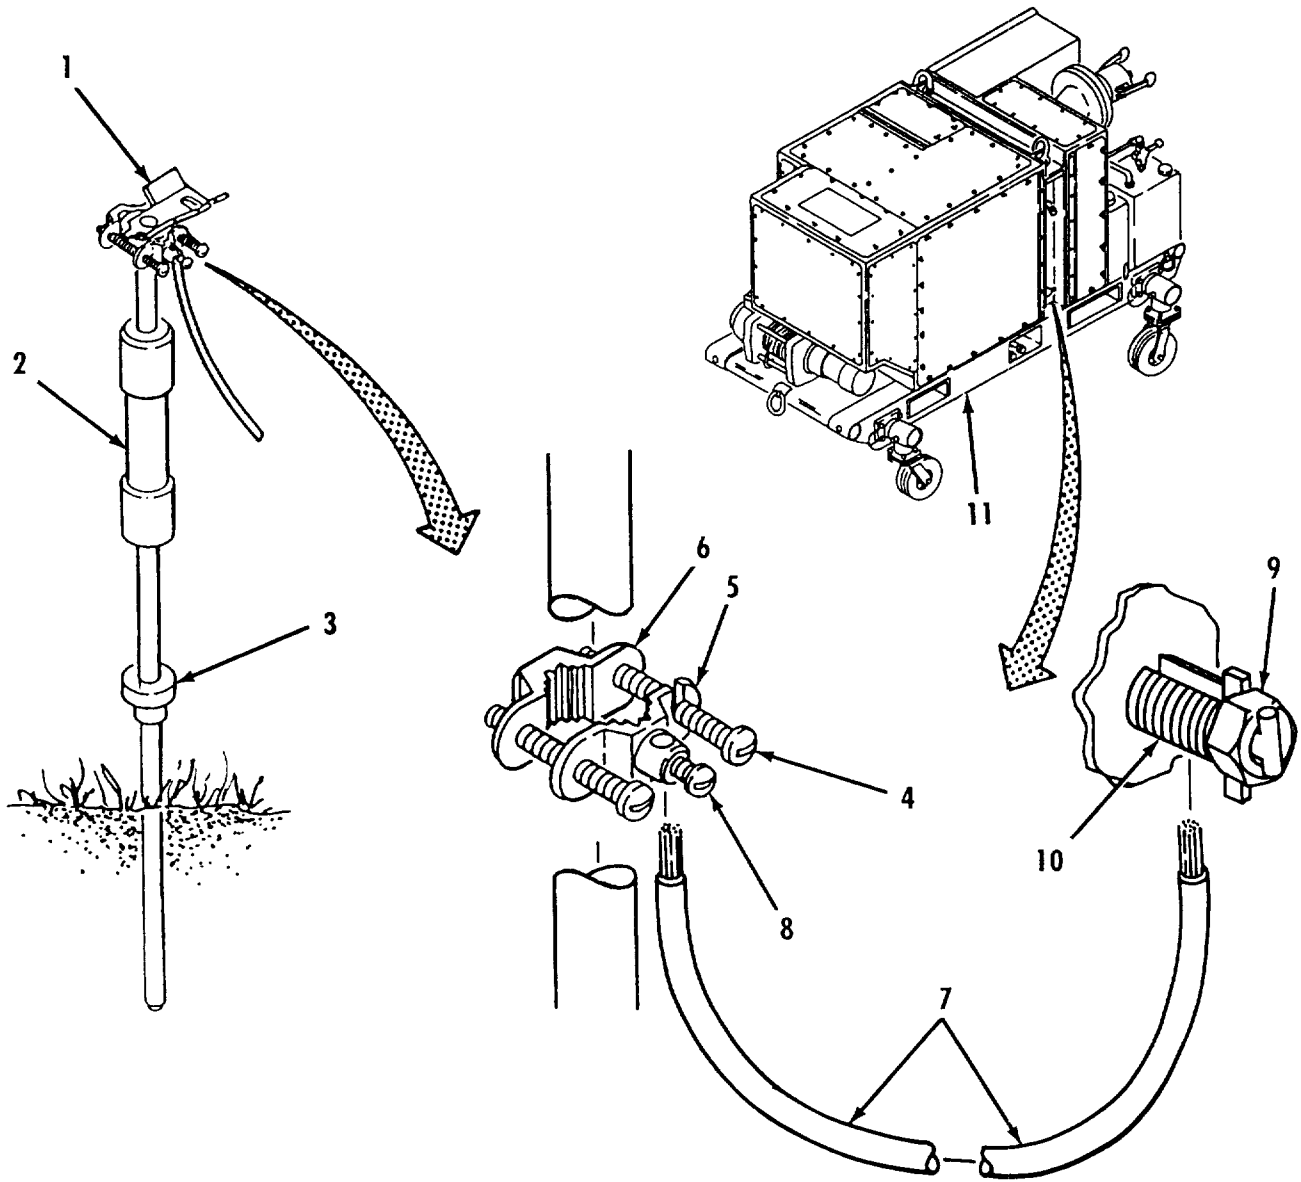

Figure 2-29. 600 Gpm Pump Ground Rod Installation.
- u. 600 GPM Pump Ground Rod Installation. Refer to figure 2-29.